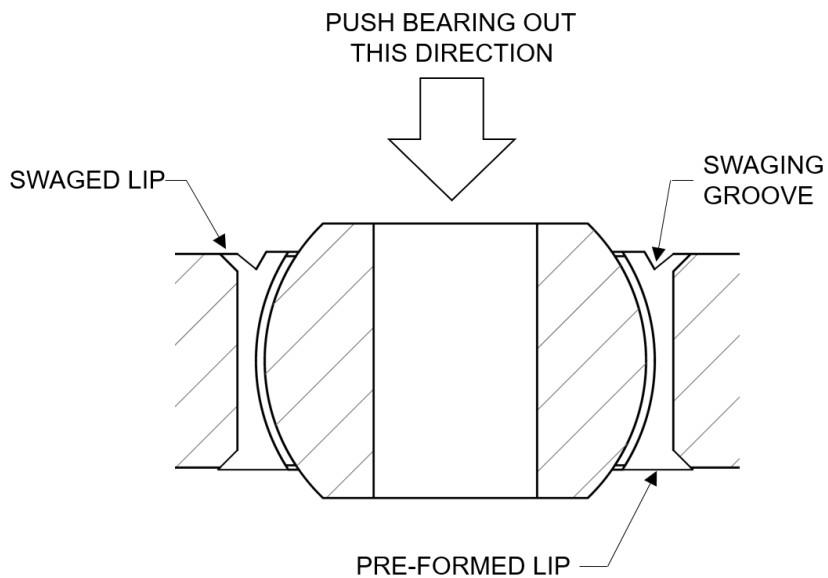

Figure 1. Blade Oriented with Preformed Lip Facing Down for Bearing Removal
- 2.1.4 Use a hydraulic press to push out the bearing from the side of the blade that has the swaged lip. Reference Figure 1.